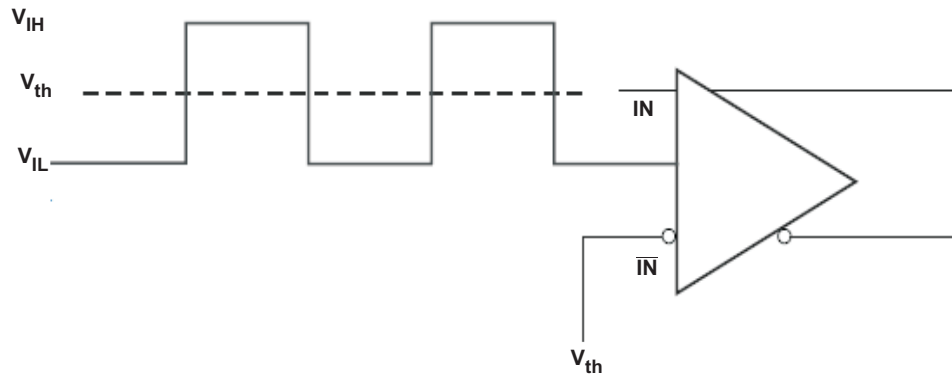

Figure 7. DC Coupled LVCMOS Input During Device Test
2.5V LVC MOS (see Figure 7) INPUT CHARACTERISTICS